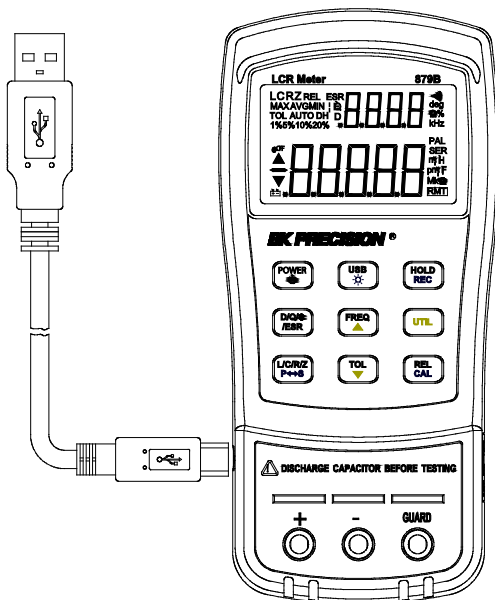

Figure 14 - USB Connection
10. With the included mini USB cable, connect the mini USB end to the LCR meter and the other end to an available USB port on the PC (see Figure 14).